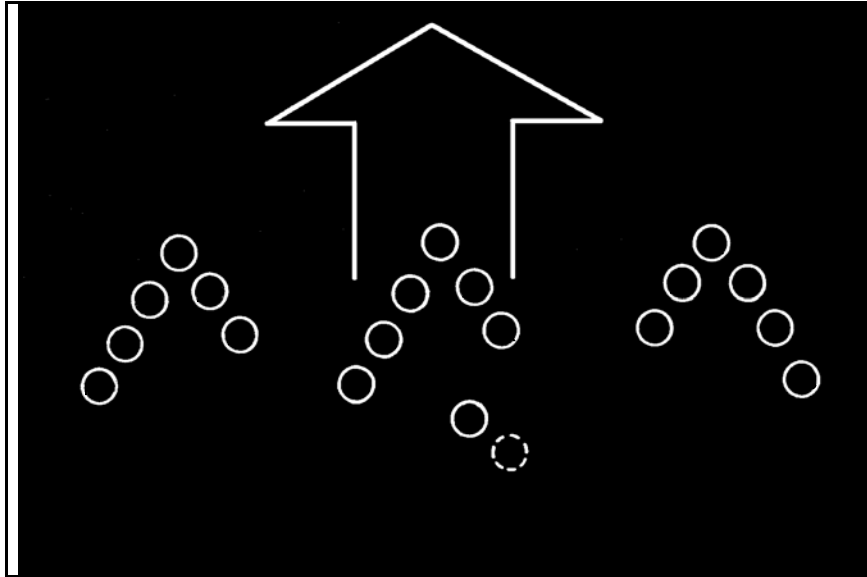

Figure 3. Dismount element wedge.
c. Use the wedge formation when the situation is uncertain (Figure 3). This formation allows a large volume of fire to the front and to both flanks. It will usually ensure that, on contact with the enemy, at least one fire team will be free to maneuver.